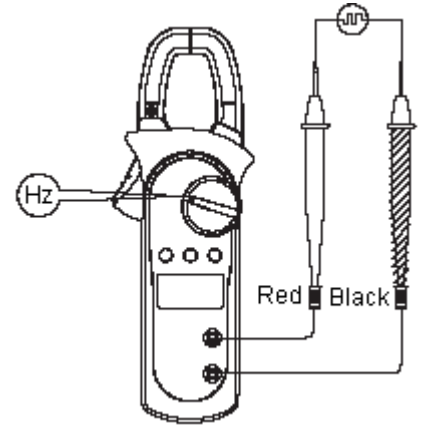

Figure 7
E. Frequency Measurement (see figure 7)